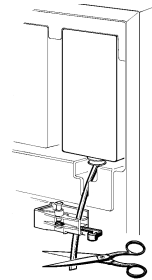

figure 4
- 4 - Cut the pinch tube as near as possible to its closed end (see figure 4).